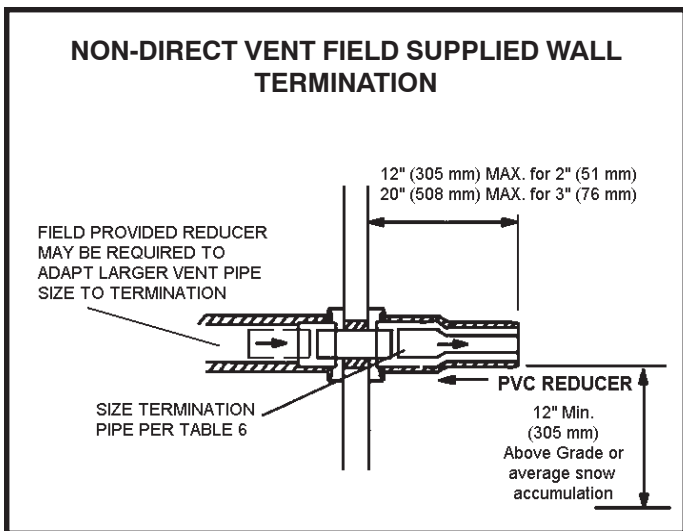

Figure 38
2. On field supplied terminations for side wall exit, exhaust piping may extend a maximum of 12 inches (305 mm) for 2" PVC and 20" (508 mm) for 3" (76 mm) PVC beyond the outside wall. See Figure 38.